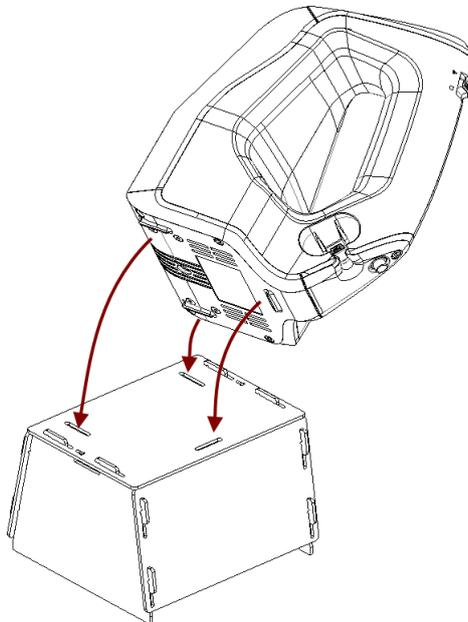

Figure 134: Placing Artec Spider on the stand
3. Place the scanner on the scanner stand, making sure that you insert the three scanner stems in the three slots of the stand cover (see Figure 134).